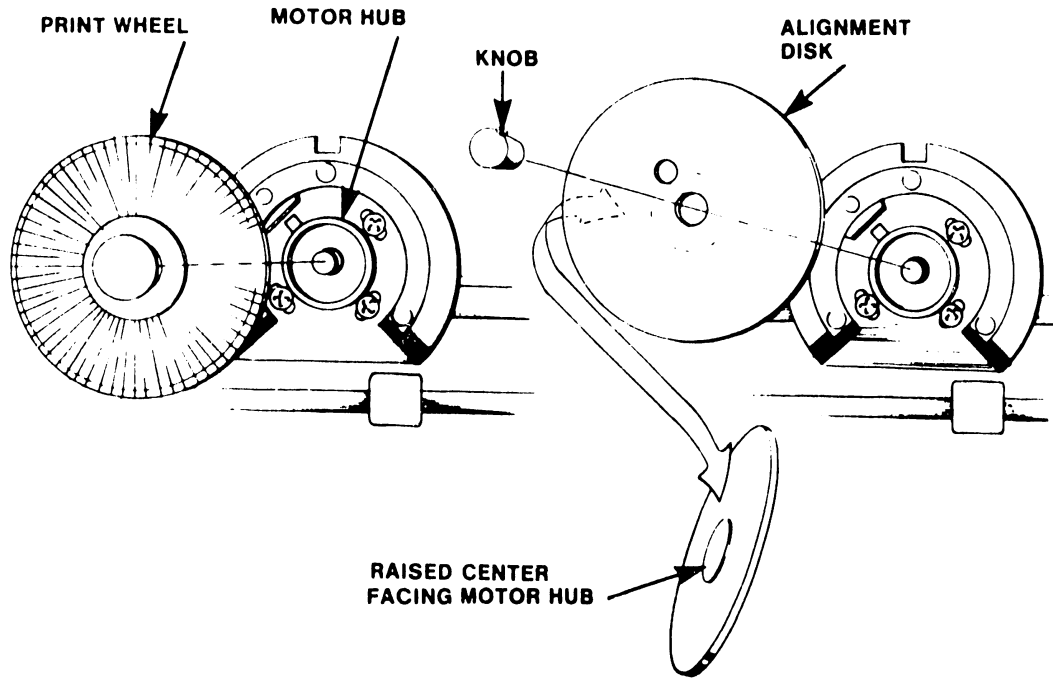

FIGURE 5-3 PRINT WHEEL AND ALIGNMENT DISKS
2. Insert print wheel alignment disk (WL #580-0152) in place of the Print Wheel (alignment disk's raised side should be positioned toward the hub). (See Figure 5-3.) Hold alignment disk in place by a knob (WL #655-0274).
3. Insert alignment disk (WL #580-0152) in place of the Print Wheel (alignment disk's raised side should be positioned toward the hub). (See Figure 5-3.) Alignment disk is held in place by a knob (WL #655-0274).
6. Set the small end of the alignment tool (WL #580-0225) forward on the platen in line with the alignment disk (Fig. 5-3).